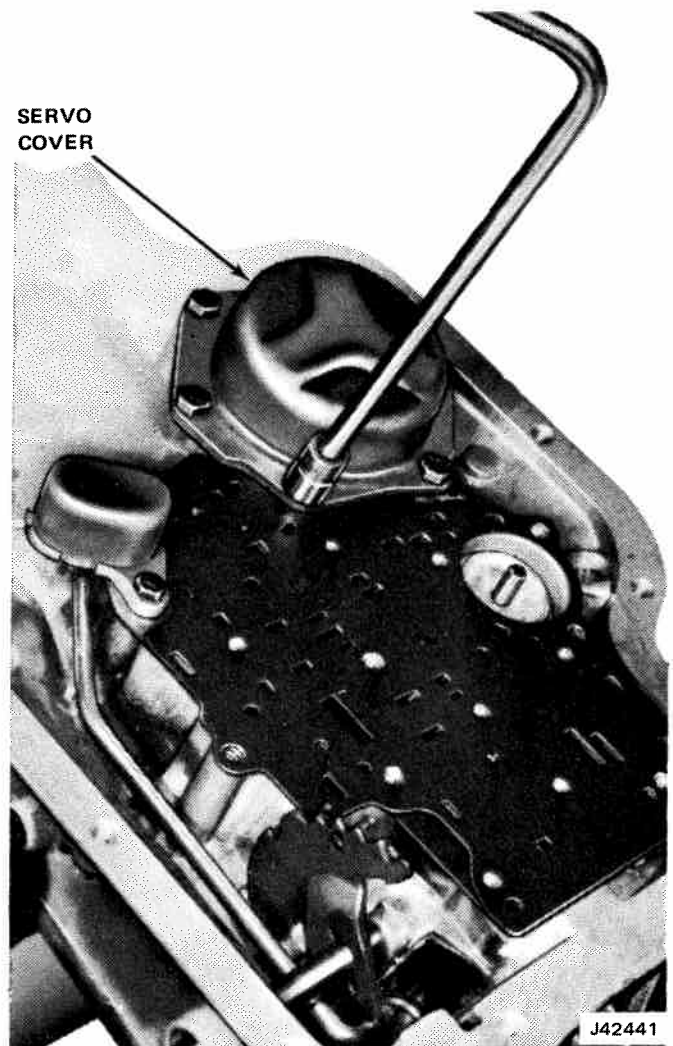

Fig. 7-11 Removing or Installing Rear Servo Cover
- (1) Remove rear servo cover attaching screws, servo cover and gasket from transmission case. Discard gasket (fig. 7-11).